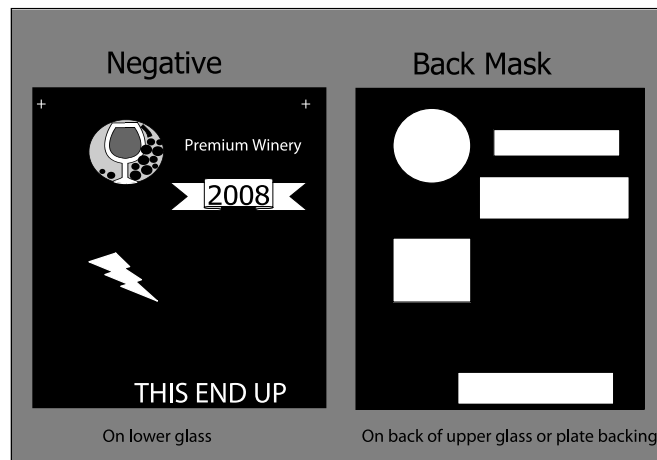

Figure 1
covery and reuse of the large amount of plate material that is not cured during imaging. The basic concept is to image one entire color in register verses making individual copy pieces and mounting them. During the plate exposure step, a background mask is used to prevent the curing of the floor in all areas except directly under the copy (Figure 1). The liquid polymer in the uncured floor areas is then recovered and recycled after the exposure step. The resulting plate has islands of copy adhered to a relatively thin and light polyester back sheet.
1. The mask film is of equal size to the image film (Figure 1).